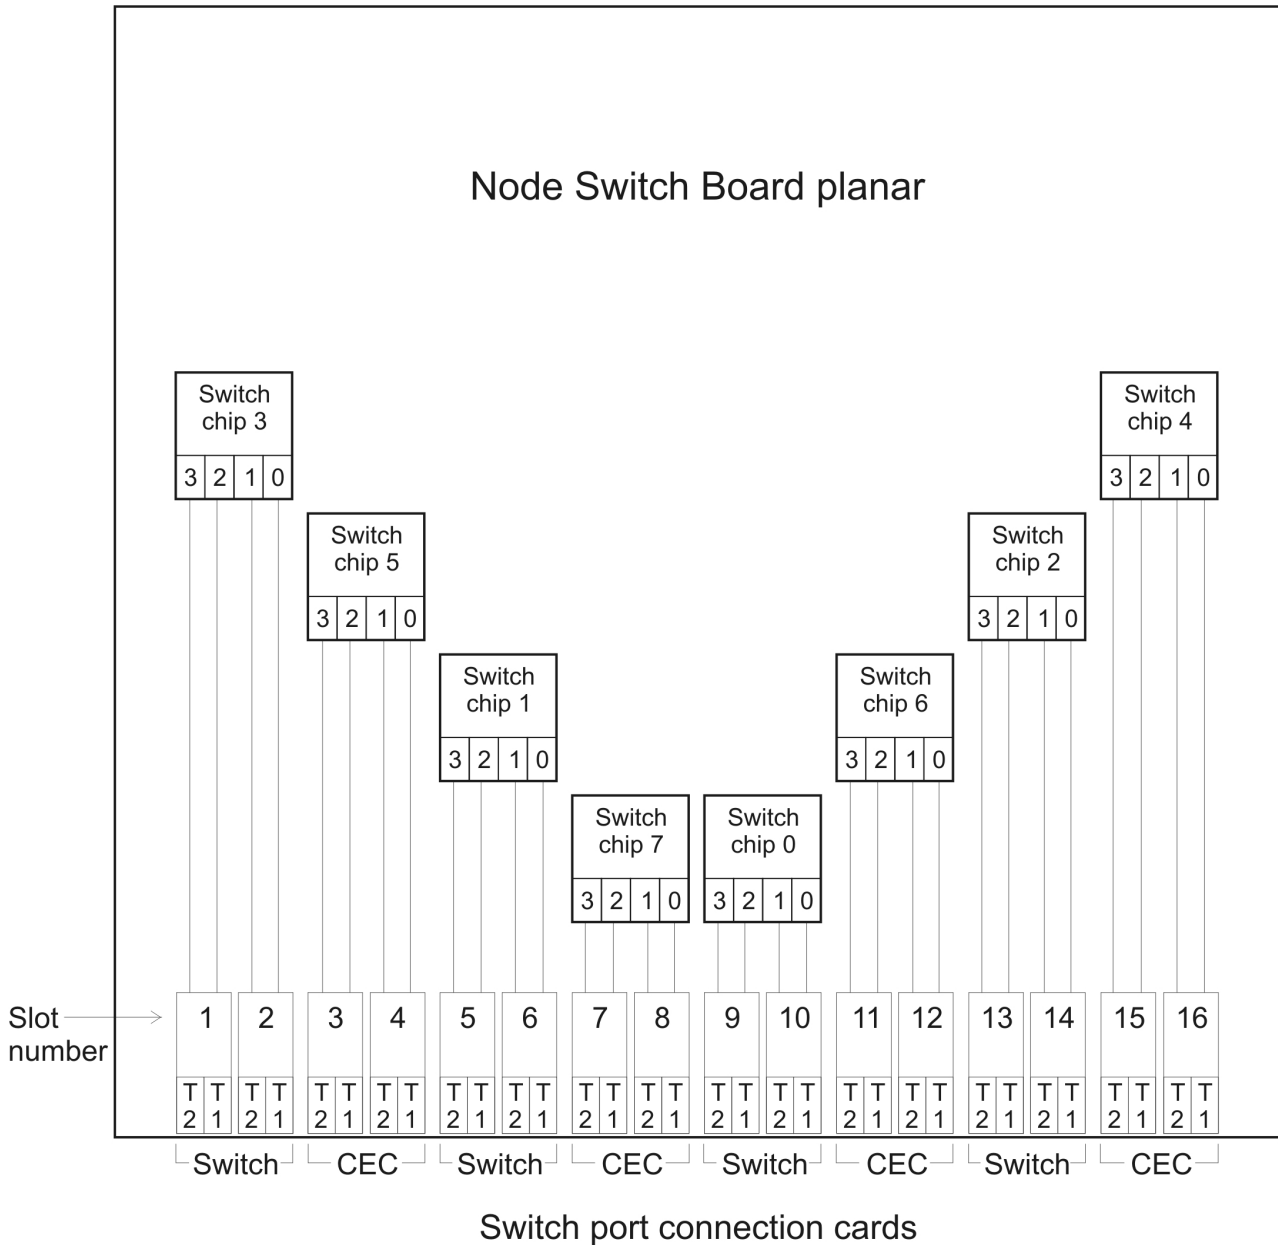

Figure 69. Switch chip to switch port associations for NSBs.
- Refer to Figure 69 on page 340
Note: Each of the eight switch chips illustrated in Figure 69 has eight switch chip ports. However, this illustration only shows switch chip ports 0, 1, 2, and 3 and their connection to the external ports on the switch planar. Since these switch chip ports are associated with external links, they are sometimes referred to as offboard links. Switch chip ports 4, 5, 6, and 7 are not shown. Switch chip ports 4, 5, 6, and 7 are used for communication between switch chips. Since these switch chip ports are used for internal links, they are sometimes referred to as onboard links.